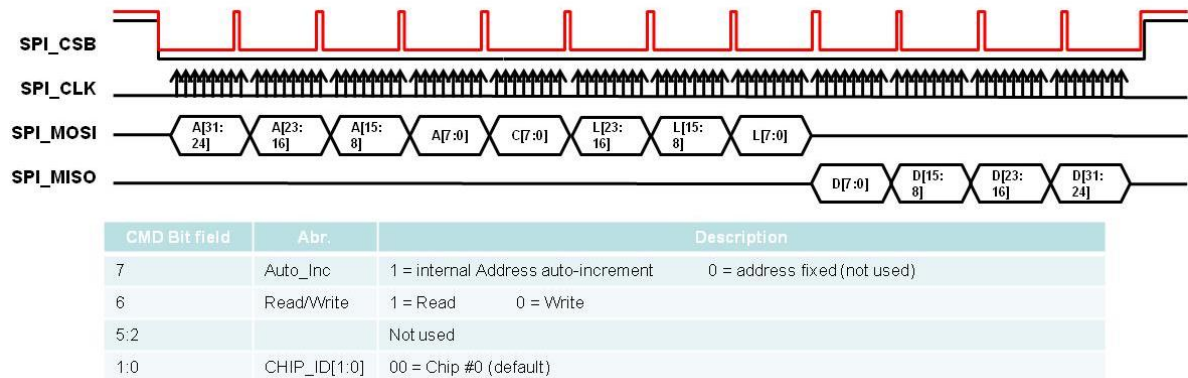

Figure 11: SPI Signals for Read Response
Note that the read data is transmitted MSB first and little-big endian system (see Figure 11).
- ⌚ Note that the read data is transmitted MSB first and little-big endian system (see Figure 11).